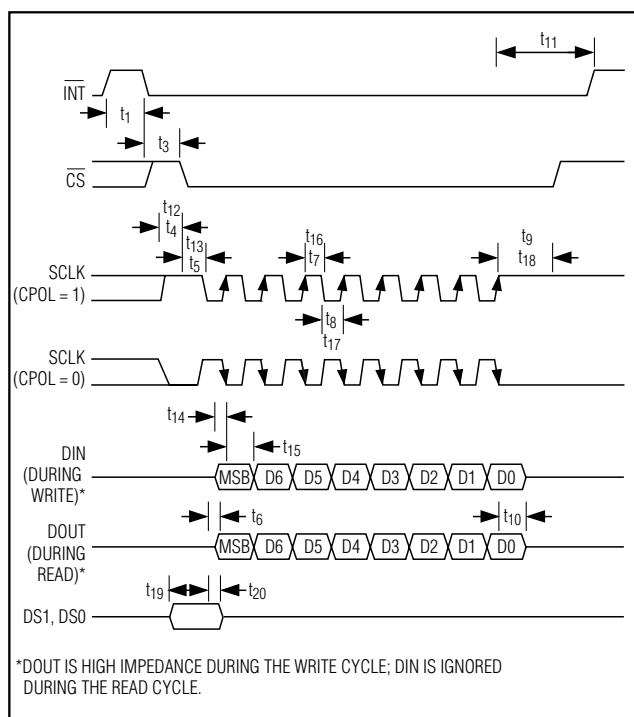

Figure 4. Serial-Interface Timing
**Note 20:** See Figure 4.
The serial interface consists of five signals:  $\overline{CS}$ , SCLK, DIN, DOUT, and  $\overline{INT}$ . Clock pulses on SCLK shift bits into DIN and out of DOUT.  $\overline{INT}$  provides an indication that data is available.  $\overline{CS}$  is a device chip-select input as well as a clock polarity select input (Figure 4). Using  $\overline{CS}$  allows the SCLK, DIN, and DOUT signals to be shared among several SPI-compatible devices. When short on I/O pins, connect  $\overline{CS}$  low and operate the serial digital interface in CPOL = 1, CPHA = 1 mode using SCLK, DIN, and DOUT. This 3-wire interface mode is ideal for opto-isolated applications. Furthermore, a microcontroller (such as a PIC16C54 or 80C51) can use a single bidirectional I/O pin for both sending to DIN and receiving from DOUT (see *Applications Information*), because the MAX1402 drives DOUT only during a read cycle.